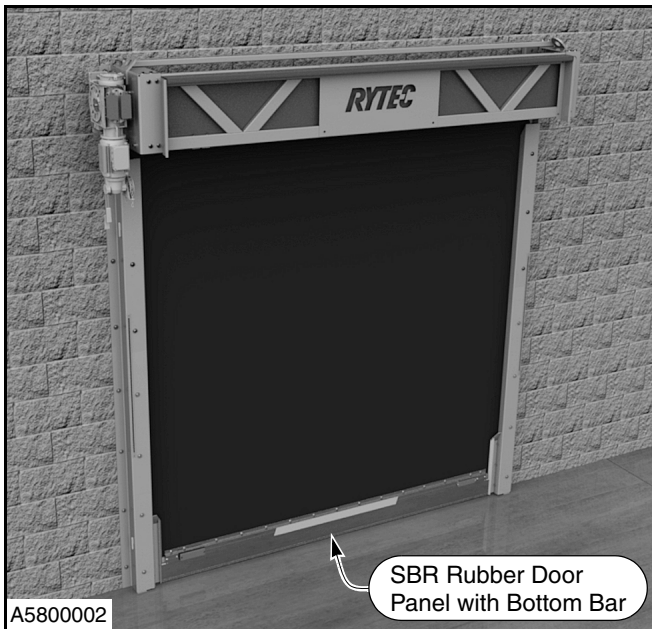

Figure 20
4. Ensure the panel is securely fastened to the bottom bar assembly. Tighten or replace loose or damaged mounting hardware as required. (See Figure 20.)